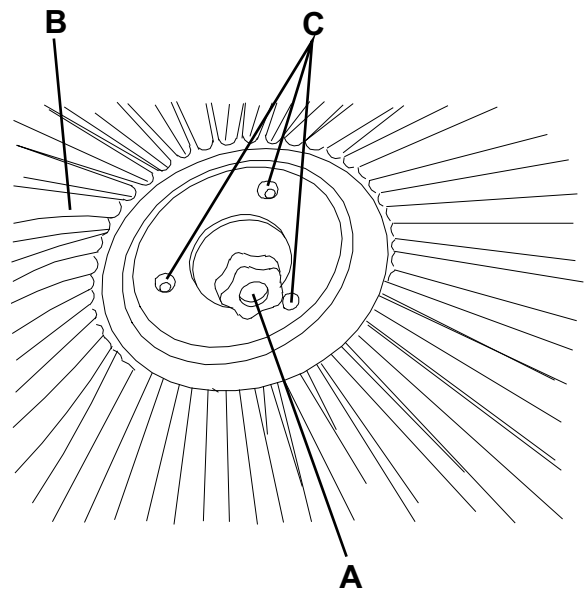

Figure 2
2. Turn the main switch (1) to "0".
4. Loosen the knob (A, Fig. 2) inside the side broom, then remove the broom (B) by disengaging it from the pins (C).
5. Install the new broom by engaging it on the pins (C), then tighten the knob (A).